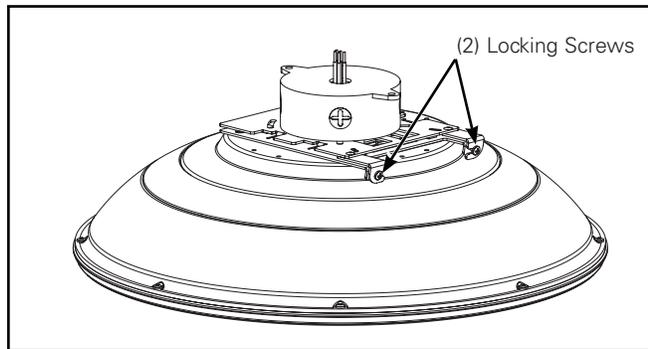

Figure 6.
7. Pivot both locking hinges back into place and tighten locking screws to 10 inch-pounds (Figure 6).